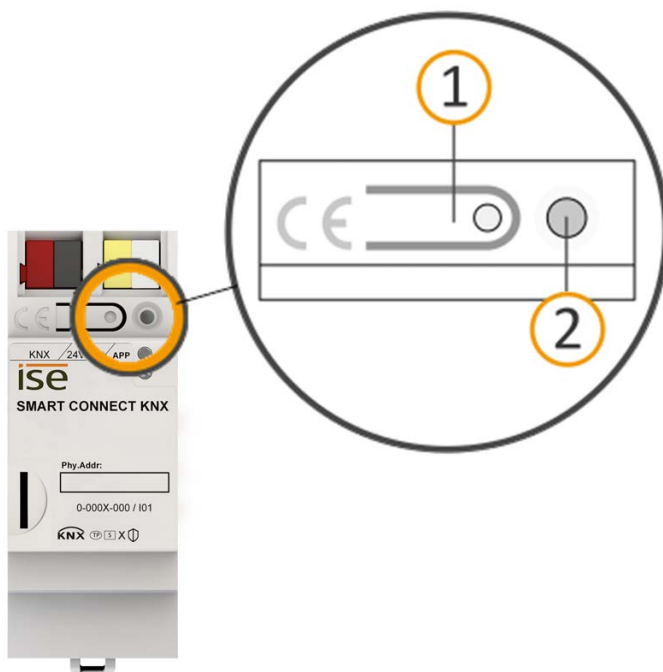

Figure 22: Programming
1. Briefly press the programming button (see figure 22, item 1). The programming LED (see figure 22 item 2) lights up red.
1. Press the programming button (see figure 22, item 1) and keep it pressed while you attach the power connection terminal.